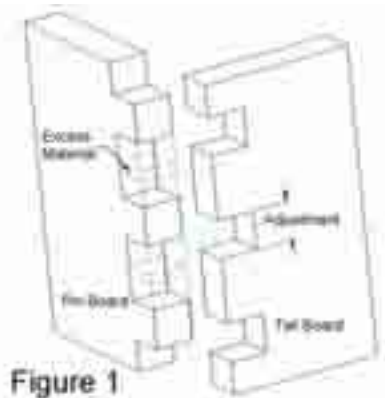

Figure 1
- 7-**If you have material remaining between your pins, refer to pages 11 and 12 of the manual for removing it. (Figure 1)